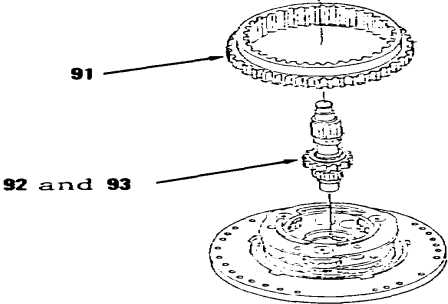

Figure 14-64.
- 45. Remove gear (91) and items 92 and 93 as an assembly (Figure 14-64).